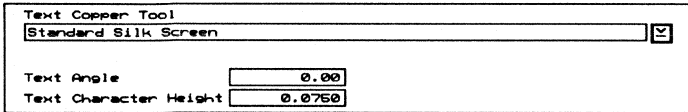

Figure 4-9. Current values for text, as shown in *Current Object Settings*.
2. Select **Text**. The current text values display in **Current Values**, as shown in figure 4-9.